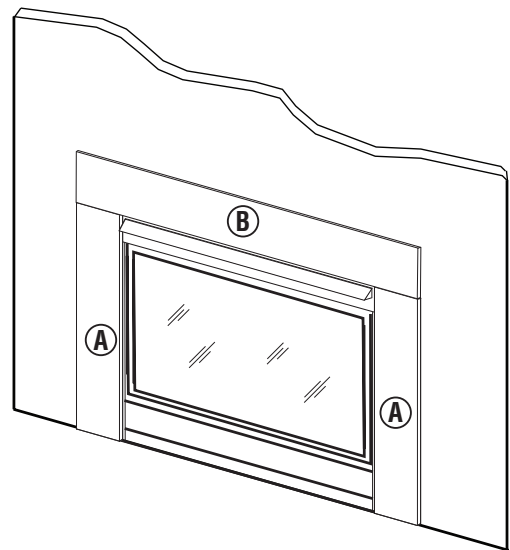

Figure 5 - Installing Three Piece Surround Face
4. Install top surround panel (B), flush with surround sides as shown in **Figure 5**.
NOTE: See **Figure 5** for an illustration of the completed installation.